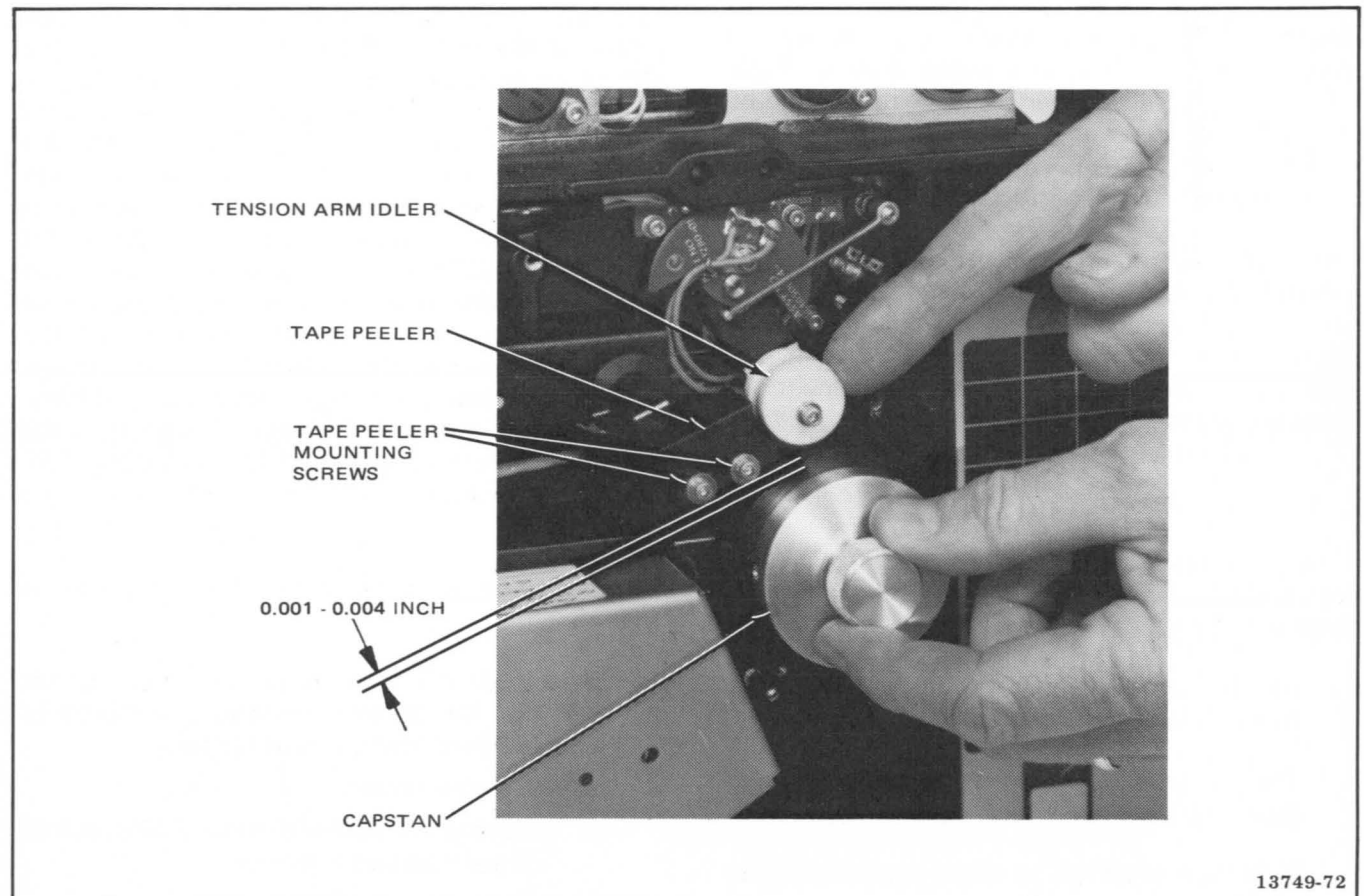

Figure 5-32. Tape Peeler Adjustment
1. Loosen the two tape peeler mounting screws shown in Figure 5-32.
- b. When the tension arm idler is pressed against the peeler (Figure 5-32), the